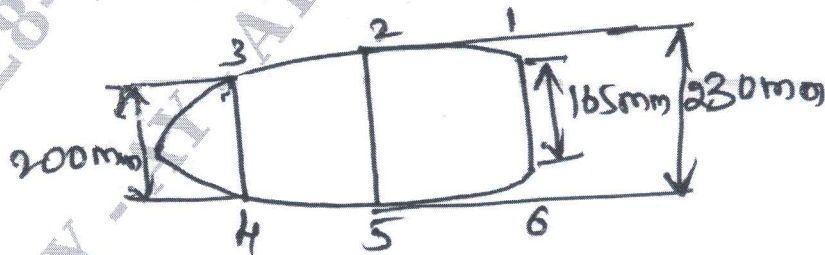

Fig. Q8 (a)
- 8 a. The wing section is shown in Fig. Q8 (a) has been idealized such that Boom's carry all the direct stress, if the wing section is subjected to a bending moment of  $300 \text{ kNm}$  in a vertical plane. Calculate the direct stress in the Booms.